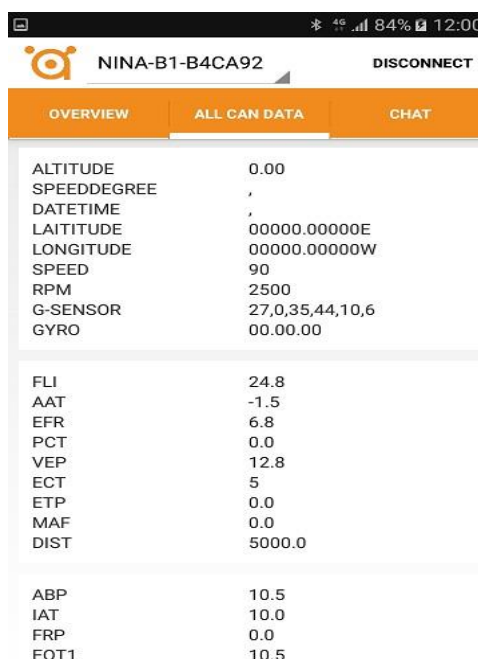

Figure 7
8. CAN (OBDII/J1939) bus data will appear by readable format as Figure 7.